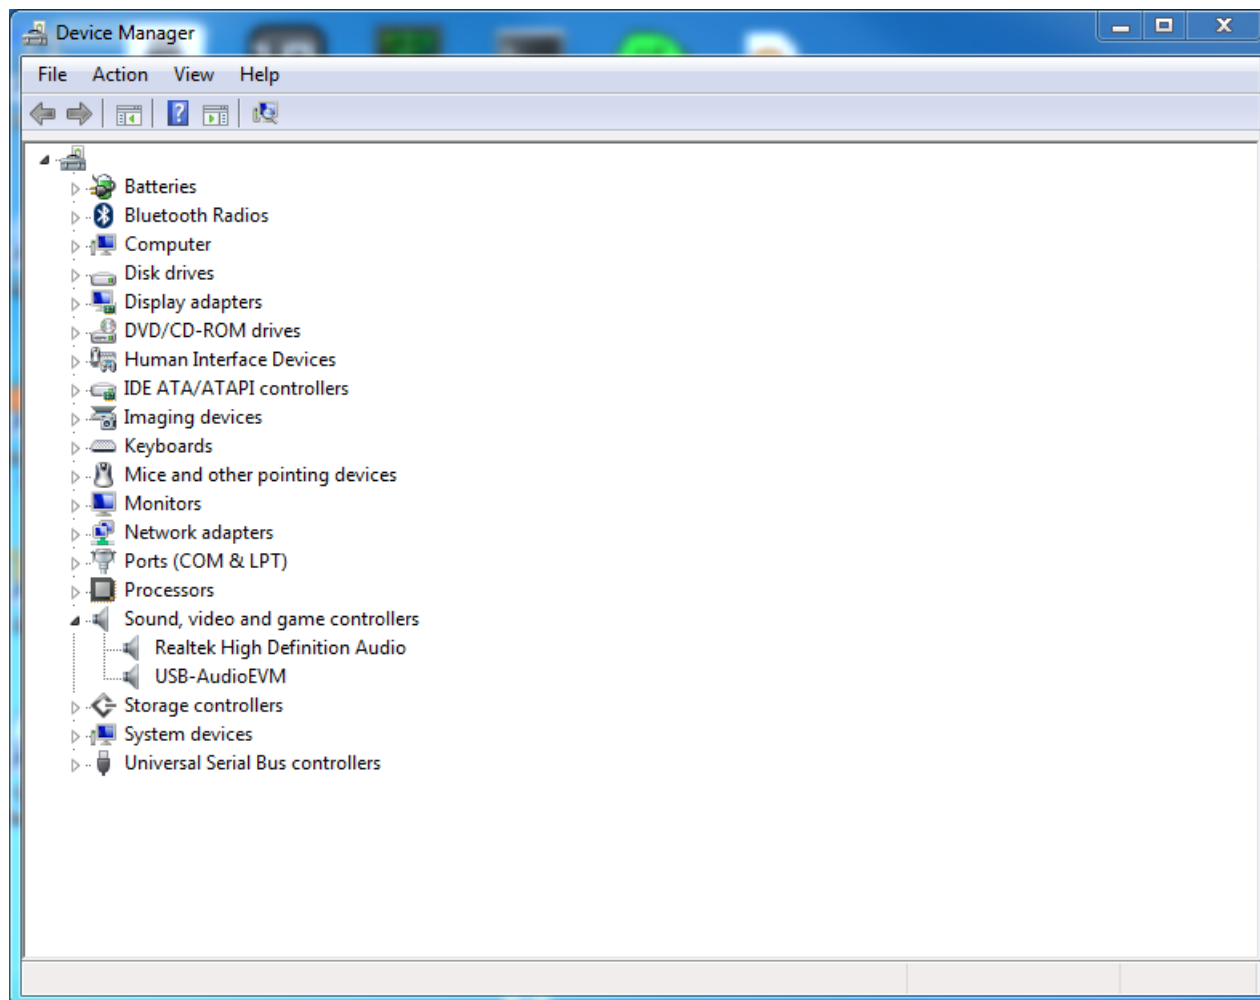

Figure 2. Device Manager
foobar2000 or similar non-processing media source can be used to stream audio. The TAS1020B enumerates as the following device on a Microsoft Windows operating system (OS): USB audio (USB-AudioEVM) (See Figure 2).